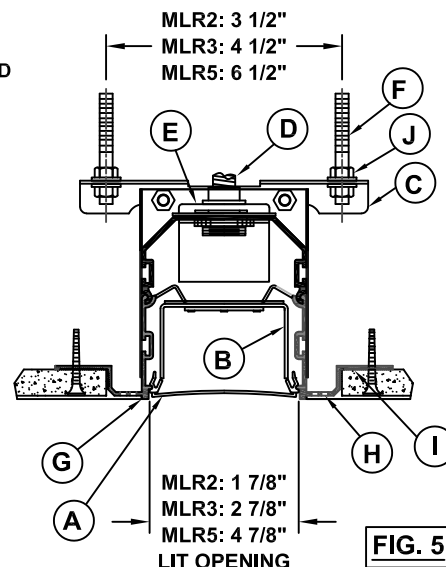

FIG. 5
PROVIDE TWO PAIR OF 1/4-20 THREADED RODS (F) ON CENTERS AS INDICATED IN FIG. 5 BY LENGTHWISE SPACING AS INDICATED ON FACTORY SHOP DRAWING. THREADED RODS SHOULD BE SECURELY ATTACHED TO STRUCTURE ABOVE AND TERMINATE APPROXIMATELY 3" ABOVE FINISHED CEILING LINE. THREAD ONE JAM NUT ON EACH THREADED ROD TO A POINT ABOVE FINAL HEIGHT ADJUSTMENT. (REF. FIG. 5)